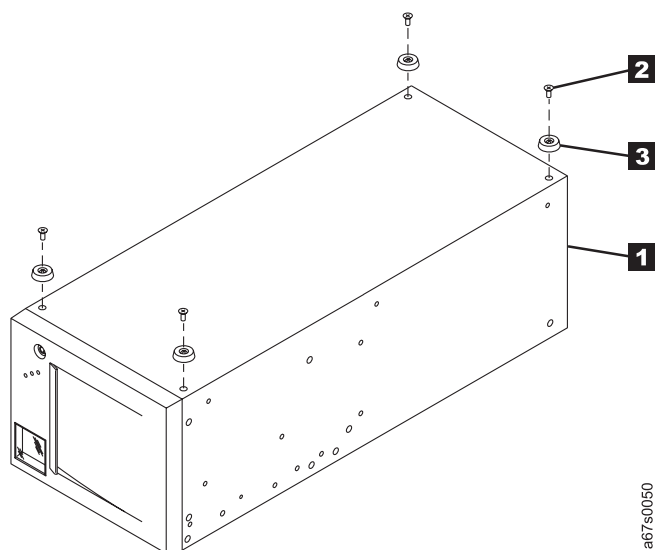

Figure 48. Removing the feet from the 3581 Tape Autoloader. The autoloader is upside down.
6. Set the 3581 Tape Autoloader upside down on a flat work surface (see **1** in Figure 48 on page 119).